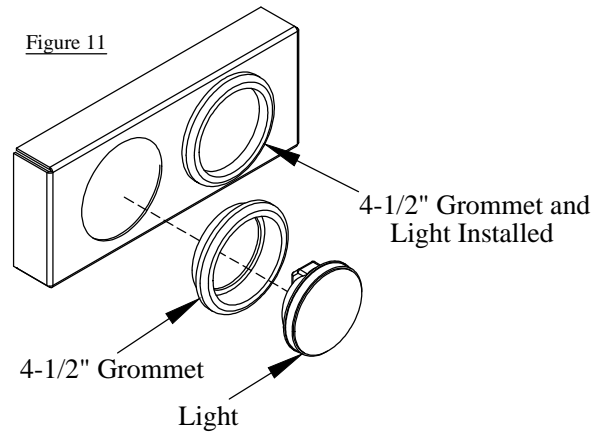

Figure 11
Step 9. Press 4-1/2" rubber grommets into light holes (Figure 11).
Step 13. If the lights are in correct operation, push lights into installed 4-1/2" rubber grommets (Figure 11).